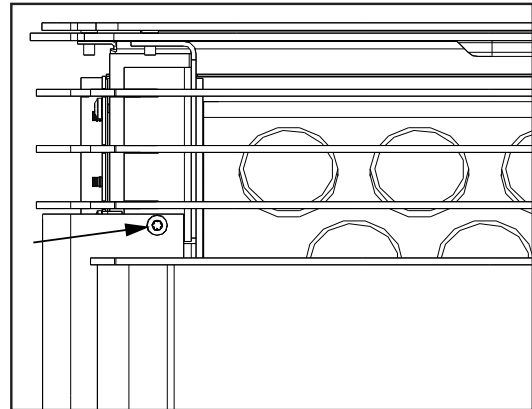
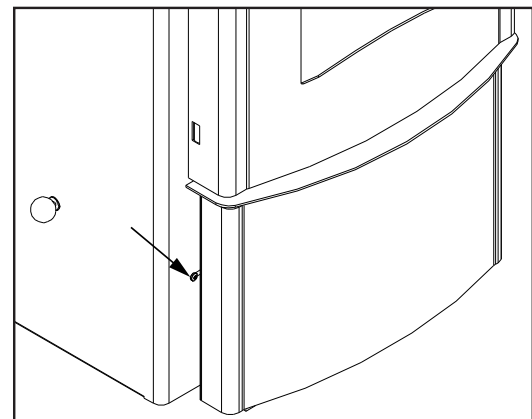
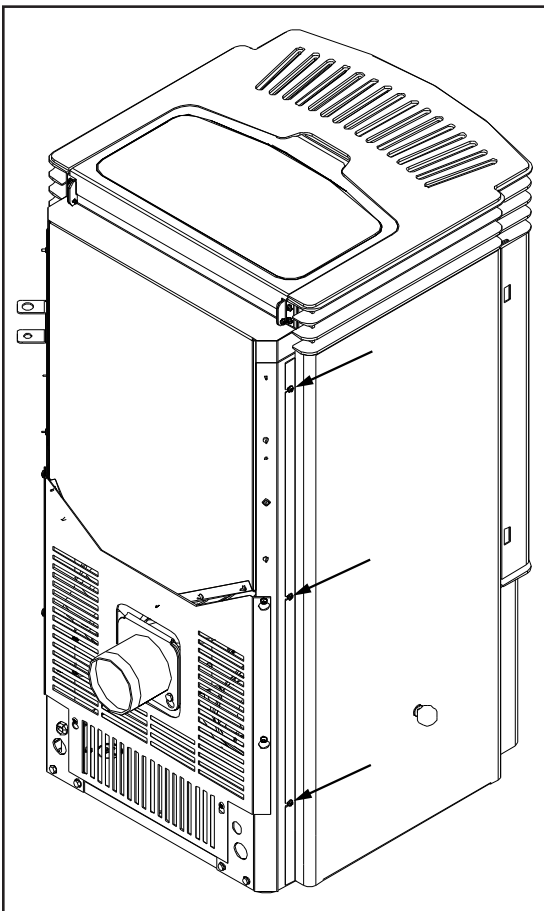
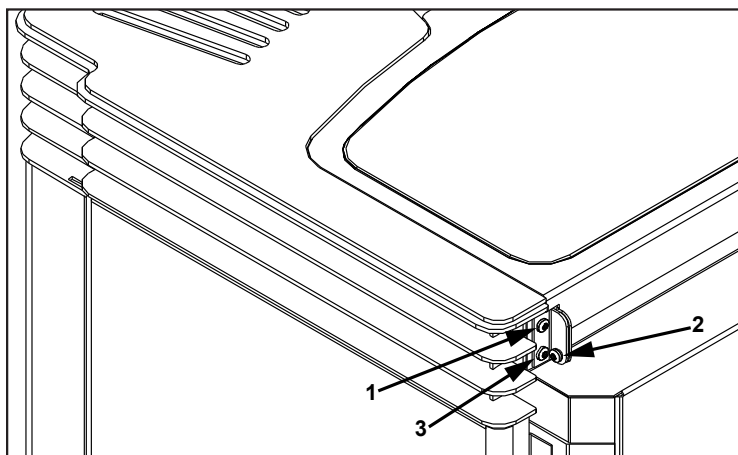

Figure 27: Screws above door top corner.
Figure 28: Screw behind ash box.
Figure 29: Screws at back of the cab side.
Figure 30: Installing Hopper Lid.
1. Remove the screws above the door on both sides (Figure 27).
2. Ensure the screws behind the ash box, one on each side (Figure 28) and the three (3) on each side at the back (Figure 29) are loosened.
3. Slide the three (3) slots at the back of the cab panels under the three (3) screws at the back.
1. Attach the hopper brackets to the back of the unit with a screw in each top hole of the brackets (#1 in Figure 30). Do not tighten these screws until all six (6) screws are in place.
2. Lay the hopper lid in place, slide the bushing into the bracket, and attach the lid to the brackets (#2 in Figure 30). The screw must go through the bushing in the bracket then into the hopper cover.
3. Install the screw in the bottom hole on both brackets (#3 in Figure 30).
4. Let the hopper lid lay flat on the stove top then tighten the four (4) bracket screws.
2. Remove both cab panels. Remove the screws above the door on both sides (Figure 27) and ensure the screws behind the ash box, one on each side (Figure 28) and the three (3) on each panels at the back (Figure 30) are loosened. Slide the front of the cab panels out then slide the back of the cab panels out from under the three (3) screws at the back (Figure 29). Note: The slider knob will need to be removed if installed.